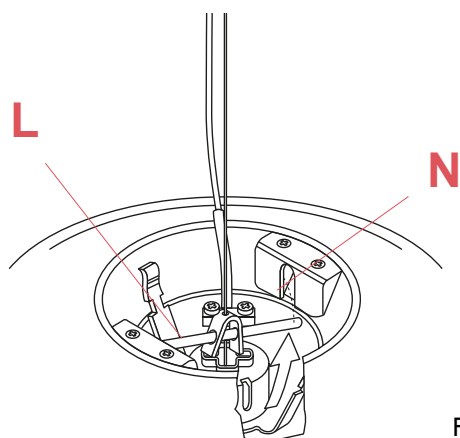

Fig.8
Hook the rod (L) into the housing (N), until it locks “clicks – in”. (fig.8)